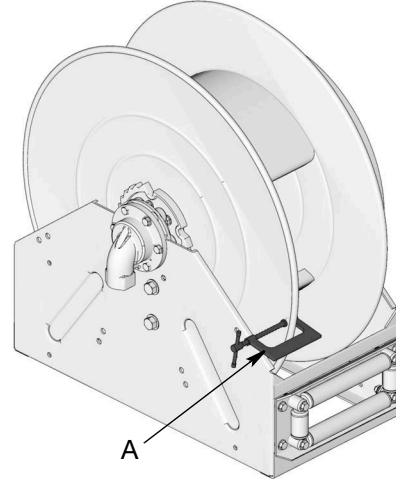

FIG. 10
- Securely attach a c-clamp (A) to the reel spool as shown in FIG. 10 to help prevent the reel from unintentionally becoming unlatched and spinning freely.